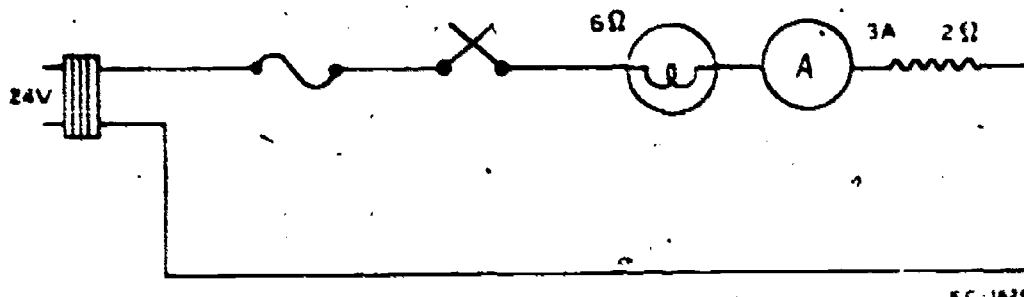

Figure 42. Ammeter Indicates Three Amperes
**CHARACTERISTICS OF SERIES CIRCUITS.** Since there is but one path for the current, all the current is forced through each resistance; consequently, current is the same throughout the circuit. In figure 42, the ammeter has been wired between the  $6\ \Omega$  lamp and the  $2\ \Omega$  resistor. The EMF is 24V. The ammeter is indicating 3 amperes of current.